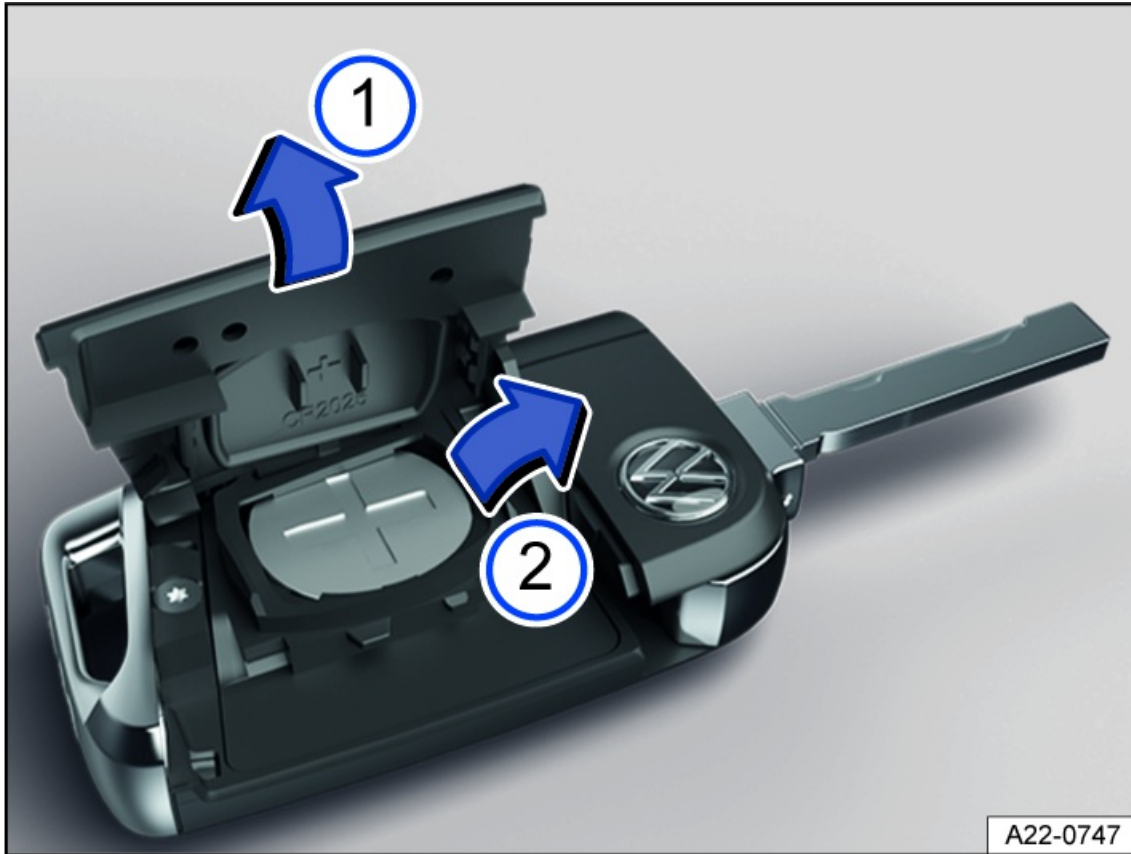

Fig. 49 Vehicle key: Replacing the button cell battery (general example).
① Cover
② Button cell battery
2. Lever off the cover *fig. 49*.
3. Lift the button cell battery out of the battery compartment *fig. 49*, ⇒ ⚠.
5. Press the cover onto the housing *fig. 49*, ⇒ ⚠.